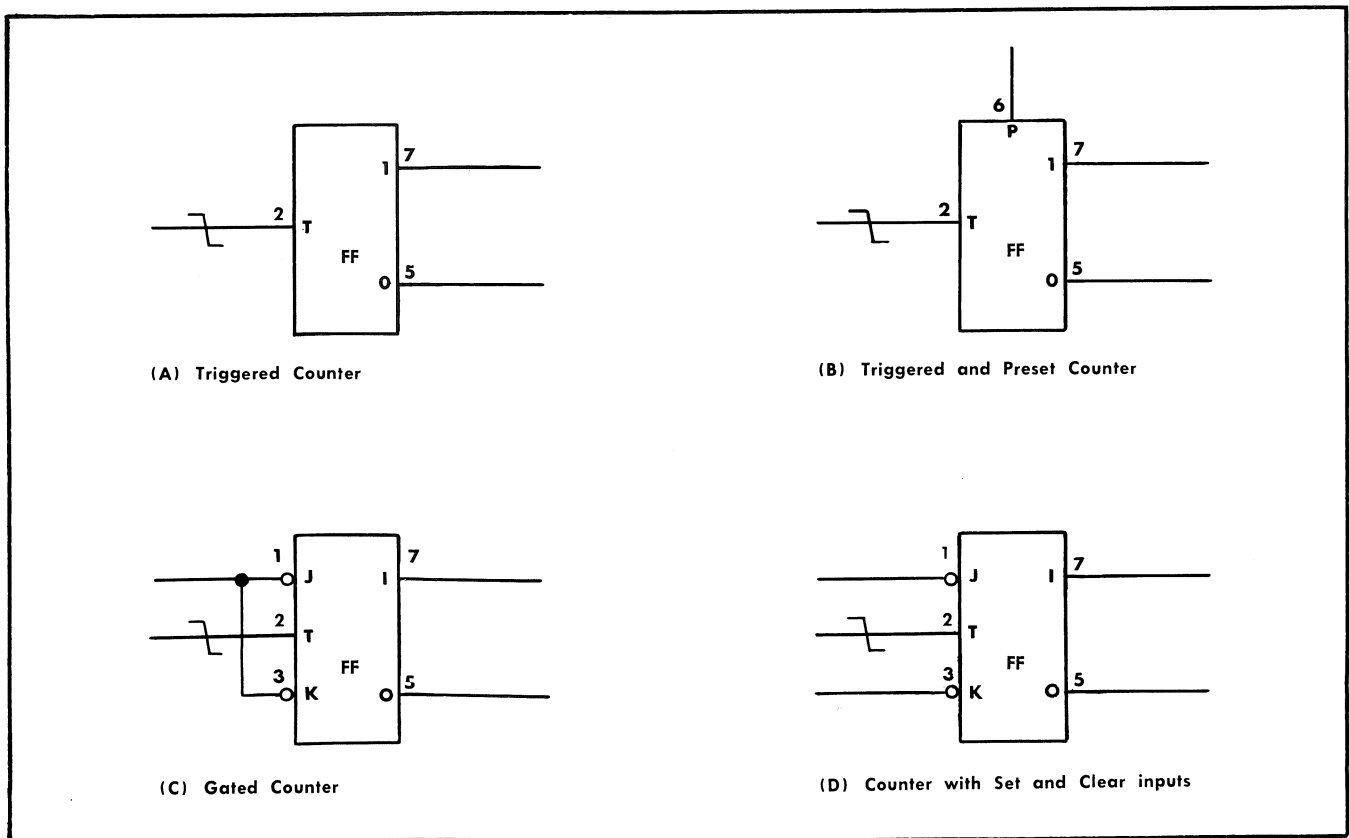

Fig. 3-7. Type  $F_{\mu}L$  923 micrologic symbols and configurations.
Fig. 3-7 (A) shows the basic configuration when using the Type  $F_{\mu}L$  923 as a triggered divide-by-two counter. To flip, a negative-going transition is required at pin 2. The output pins (5 and 7) exchange polarity each time a negative-going transition arrives at pin 2. For example, the first negative-going transition at pin 2 may cause pin 5 to go low. The next negative-going transition sets pin 5 to high. Pin 5 will go to low every other trigger into pin 2, resulting in a divide-by-two countdown. When pin 5 is low, pin 7 is high and vice versa, similar to the two sides of a multivibrator.
In Fig. 3-7 (B), pin 6 is shown as an active element. This pin is typically used to preset the flip-flop so that the output pins start with the desired polarity at a certain time. When pin 6 is high, pin 5 will be high and pin 7 will be low. The high at pin 6 overrides any trigger input at pin 2 so that the flip-flop can always be started with the desired polarity. When the high is no longer present at pin 6, the unit can resume triggered operation under control of pin 2.
A gated counter is illustrated in Fig. 3-7 (C). In this configuration, operation is similar to the triggered counter except that the flip-flop is inhibited from changing states during the time that pins 1 and 3 are high. When pins 1 and 3 are low, negative-going transitions at pin 2 will trigger the flip-flop in the normal manner.
In Fig. 3-7 (D), separate controlling signals are coupled into pins 1, 2 and 3. As in the gated counter, if pins 1 and 3 are both high, pin 2 cannot trigger the flip-flop. If pin 1 is high and pin 3 is low, the next negative-going transition at pin 2 will trigger the flip-flop so that pin 7 is high and pin 5 is low. If the flip-flop is already in that state when the trigger arrives at pin 2, no change will occur. If pin 1 is low and pin 3 is high, the flip-flop will change states with a trigger at pin 2 as necessary to set pin 7 to low and pin 5 to high. Pin 7 output signal has the same polarity as pin 1 input signal and pin 5 output polarity will be the same as pin 3 input polarity.